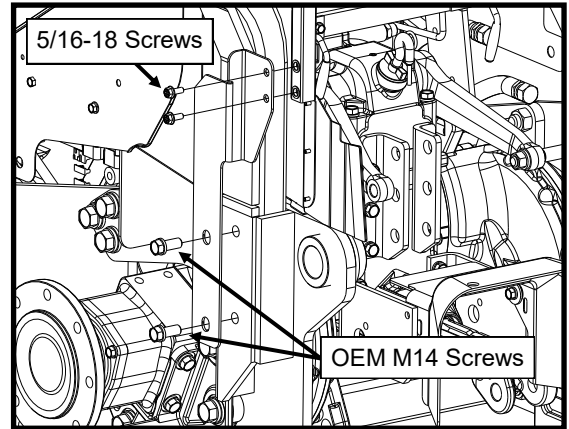

Figure 8.1: Left Lower Rear Panel Bracket
8.2 Fasten the left lower rear panel bracket to the vehicle using the OEM bolt (see Figure 8.1, wheel and backhoe hidden for clarity). Leave hardware loose.